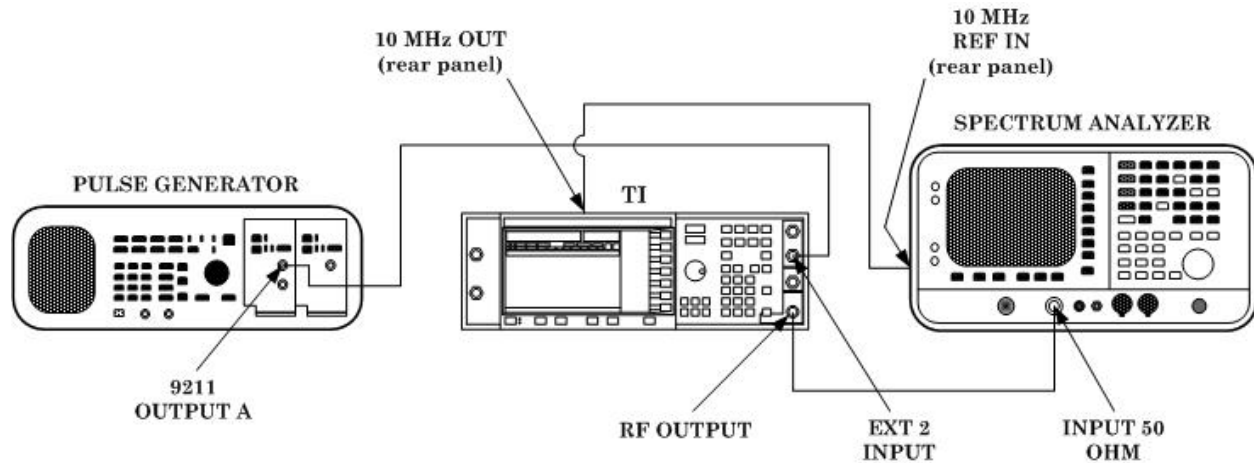

Figure 3. Pulse modulation on/off ratio equipment setup.
(1) Connect equipment as shown in figure 3.